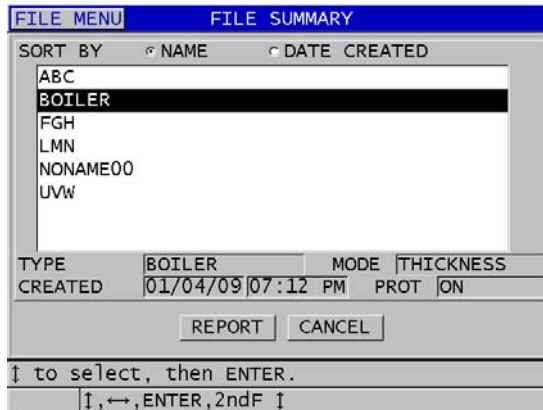

Figure 11-30 The FILE SUMMARY report screen
4. In the **FILE SUMMARY** screen (see Figure 11-30 on page 203):